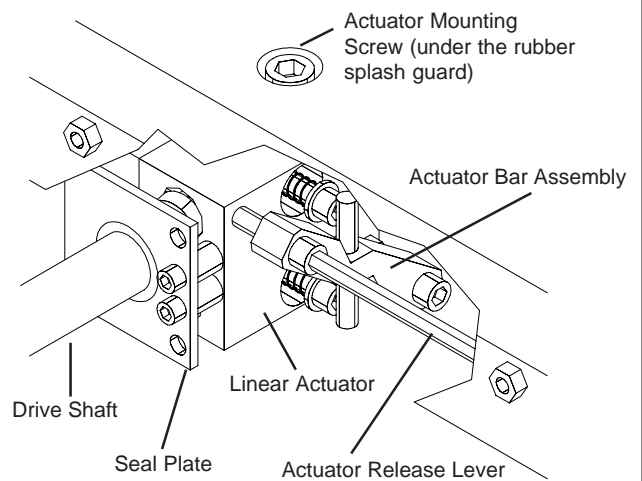

FIG. 17
3. Remove the feed screw guide two mounting screws and slide the grinding head assembly back. Lift the rubber splash guard to expose the actuator mounting screw (FIG. 17) on the top side of the carriage base. Remove the mounting screw, to disconnect the linear actuator from the carriage. Slide the carriage assembly to one side.
4. Disconnect the shaft seal plate (FIG. 17) from each side of the linear actuator. Slide the seals down the drive shaft until they are out of the way. (If the optional carriage bellows were installed, the shaft seals may already have been removed).
- With the actuator bearings engaged to the drive shaft, readjust the two outboard screws with springs that hold the actuator together. To reach these screws, you must remove the actuator bar assembly. See FIG. 17. Turn each outboard screw an equal amount when resetting. Turn clockwise for more tension.